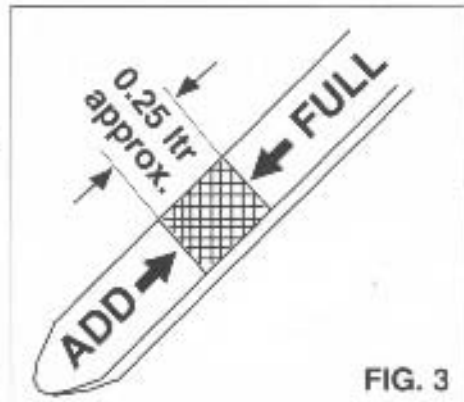

FIG. 3
- 1/ Check that the engine is filled with the right oil (SAE 30) and to the recommended mark - never overfill (See Fig. 3)